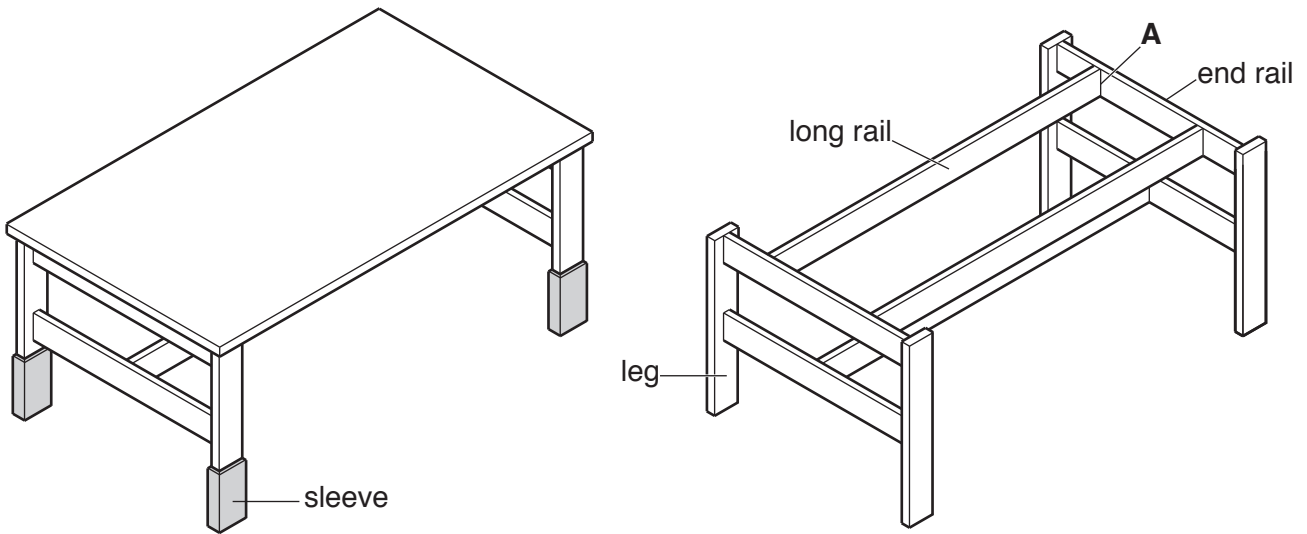

Fig. 17
- 13 Fig. 17 shows views of a children’s play table. The height of the table can be adjusted by means of sleeves that fit over the ends of the legs. The table is produced as flat-pack for self-assembly.
- (e) The parts of the table shown in Fig. 17 will be assembled using dowels and screws.